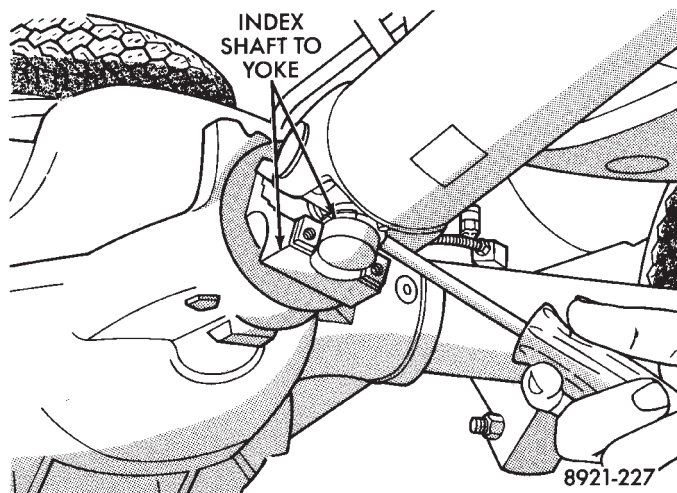

Fig. 1 Marking Propeller Shaft And Yoke For Alignment Reference
- (1) Raise vehicle on hoist.
- (2) If transmission will be disassembled after removal, remove transmission oil pan, drain fluid and reinstall oil pan.
- (3) Remove skid plate, if equipped.
- (4) Mark front and rear propeller shafts and U-joints for alignment reference (Fig. 1).
- (5) Disconnect and remove both propeller shafts.